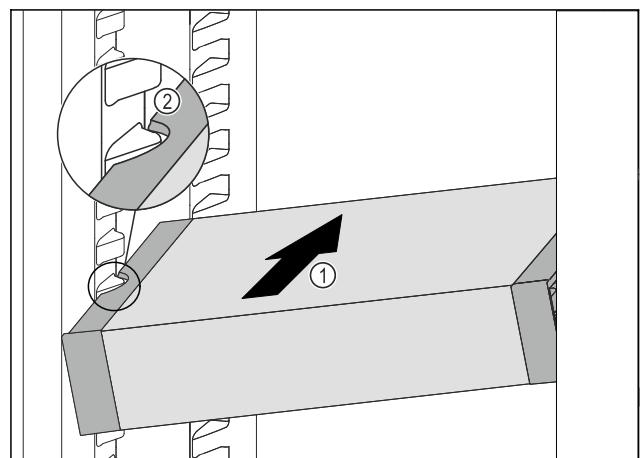

Fig. 135
► Insert the VarioSafe into the fridge section at an angle Fig. 135 (1) until the recesses in the side Fig. 135 (2) of the VarioSafe are at the level of the support rib in the fridge section.